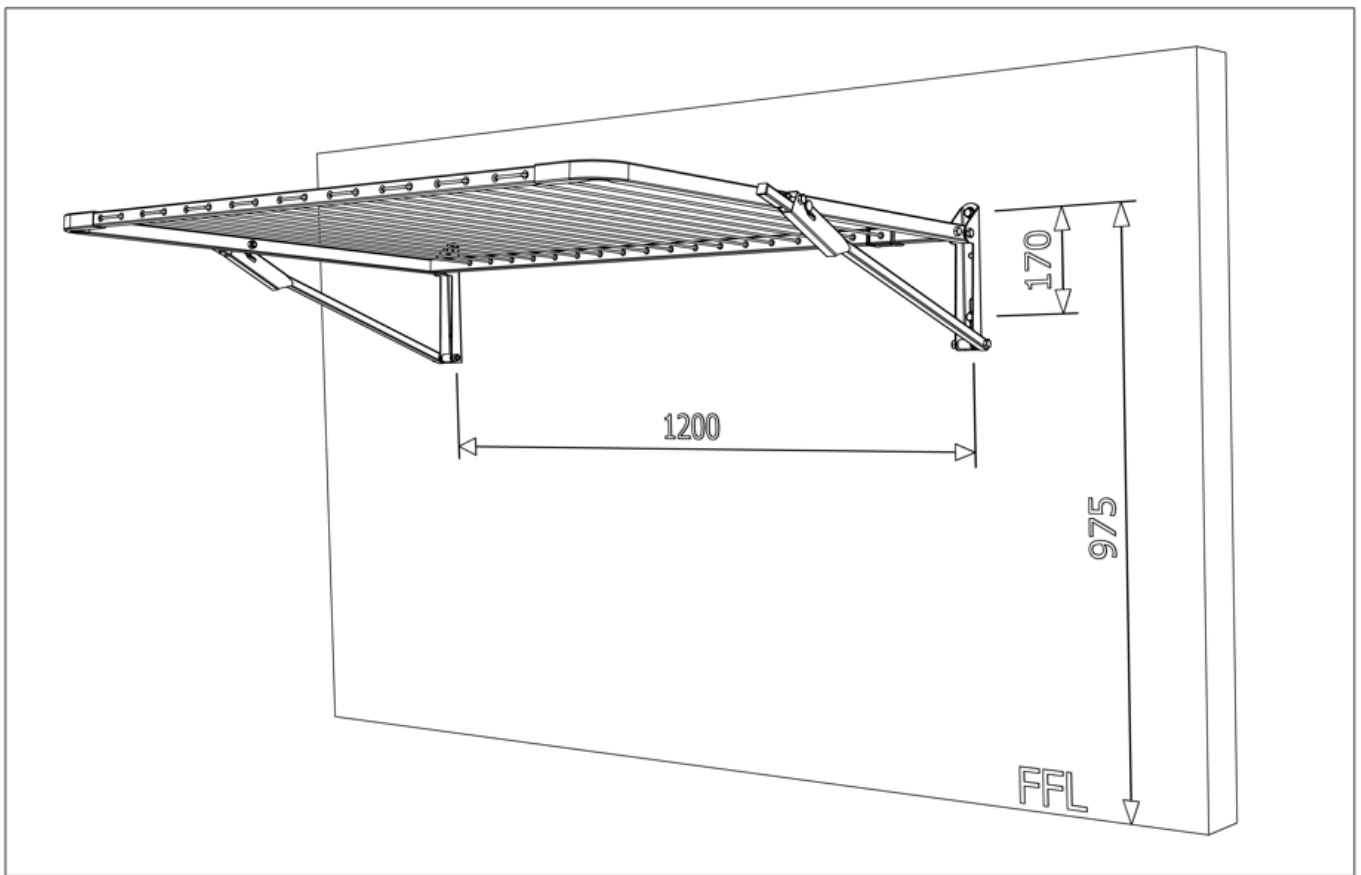

Fig 1. Balcony Line installed to wall.
- *THE BALCONY LINE MUST BE INSTALLED AS PER FIG 1.*
2. The Balcony Line must be installed at 975mm (top hole) above Finished Floor Level to be compliant with building regulations. (Fig 1).